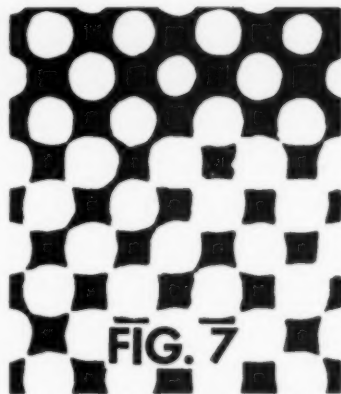

Figure 7. Photomicrograph of halftone negative on process dry plate.
It is well known that dot sizes can be changed in both processes by varying the exposure of the plates. This is due to the fact that all halftone dots are surrounded by a fringe, or gradient fog of silver. Thus the degree to which this marginal fringe is printed through and the degree of tanning of the marginal bichromated colloid vary with exposure. The fringe is present in all halftones whether they are made in the camera or by contact . . . the only difference is in the fringe's slope or gradient. The fringe around typical halftone dots is illustrated in Figure 7. The nature of this fringe and the design and use of a dark-field densitometer for measuring it are described by J. A. C. Yule (12) in the third article of his series on "The Theory of Halftone Process."